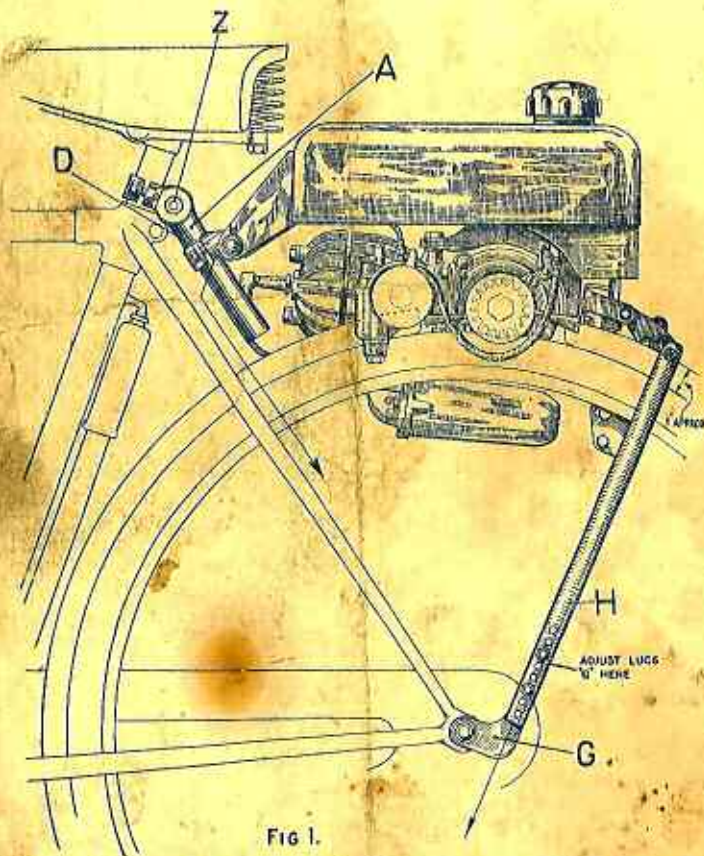

FIG 1.
Fig. 1.—To increase the pressure of the roller on the tyre; move the hinge lug "D" in the direction of the arrow for a small increase, or the U shaped fork "H" for larger increases.
- (2) Bring the petrol tank into a horizontal position by adjusting the clamping pieces "Z" on the elbow lug and sliding the hinge "D" up or down the elbow lug as required. (Fig. 1.)
- (7) Undo the nuts of the wheel spindle and spring the U shaped fork "H" into position. Each branch of the fork carries at its lower end an adjustable lug "G." Fix the position of these lugs so that a space of about 1 in. is allowed between the tyre and the fork. (Fig. 1).
To increase the pressure of the roller on the tyre, first check to ensure that the tyre is inflated hard. If slippage still occurs, slacken the nut "C" on the elbow lug "D" and slide the lug downwards in the direction of the arrow, Fig. 1. Then retighten the nut "C." If a large amount of adjustment is required, the U-shaped stay should be moved down another notch at "G," Fig. 1.